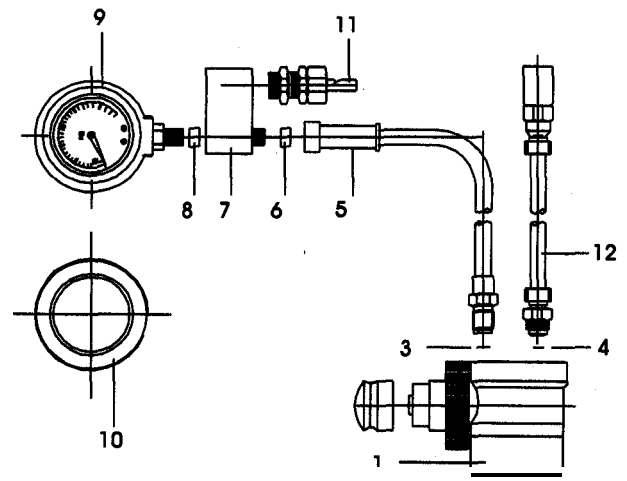

Figure 1
- Hold manifold block (7) using either adjustable or 20 mm AF open ended spanner.
- Use 14 mm AF open ended spanner or adjustable to unscrew gauge (9) from manifold block.
- Remove gauge cover (10) (Figure 1).
- Remove sealing washer (8) from bore of manifold block and inspect bore thread for damage.
- Screw new gauge into manifold using spanners. Ensure correct orientation as shown in Figure 1.